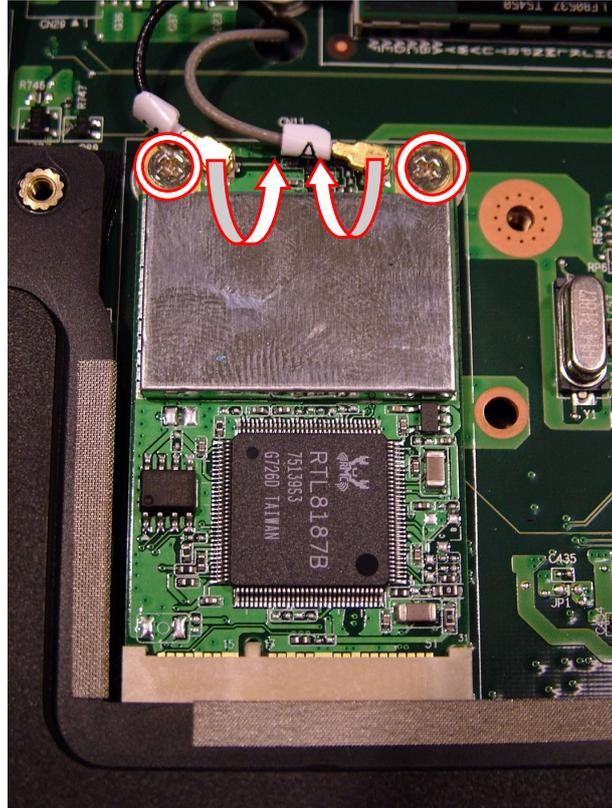

Fig. 7 Location of antenna cable connectors and screws.
- Remove the 2 screws securing the adapter (see Fig. 7); the adapter will eject upwards.